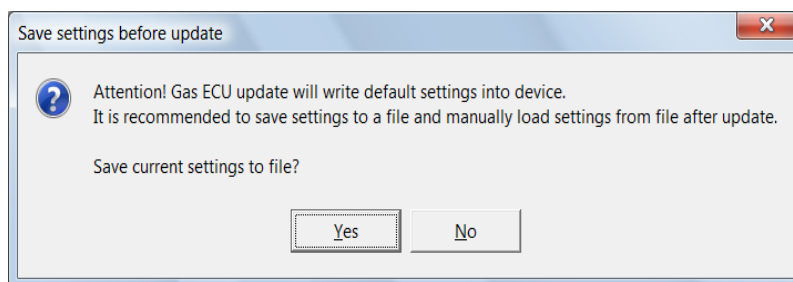

Figure 3.3: Save settings before update
- **Firmware update** – this option is available in controllers 30C and newer. It allows to reprogram controller by loading into it special file upg. Upg files are distributed with the program DiegoG3 and are put in the subfolder ...\\DiegoG3\\Data. The upg file name contains version of the controller (e.g. 30D) and date of compilation (e.g. 20090605). Actualization causes changes in controller program and writes default settings for the new version. Therefore, if old configuration will be used in future, it is recommended to save old configuration to the file before making the update (see figure 3.3).